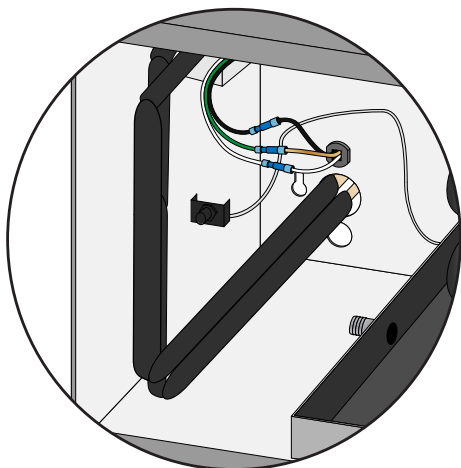

Figure 1
14. After the suction line has been insulated, connect the bottle probe. (See **Figure 1.**) Secure loose bottle probe cable with cable ties.
3. Place bottle probe securely into bottle as seen in Figure 1.
5. To ensure a consistent temperature, place bottle probe approximately three (3) feet away from the air output and not in the flow of the air.